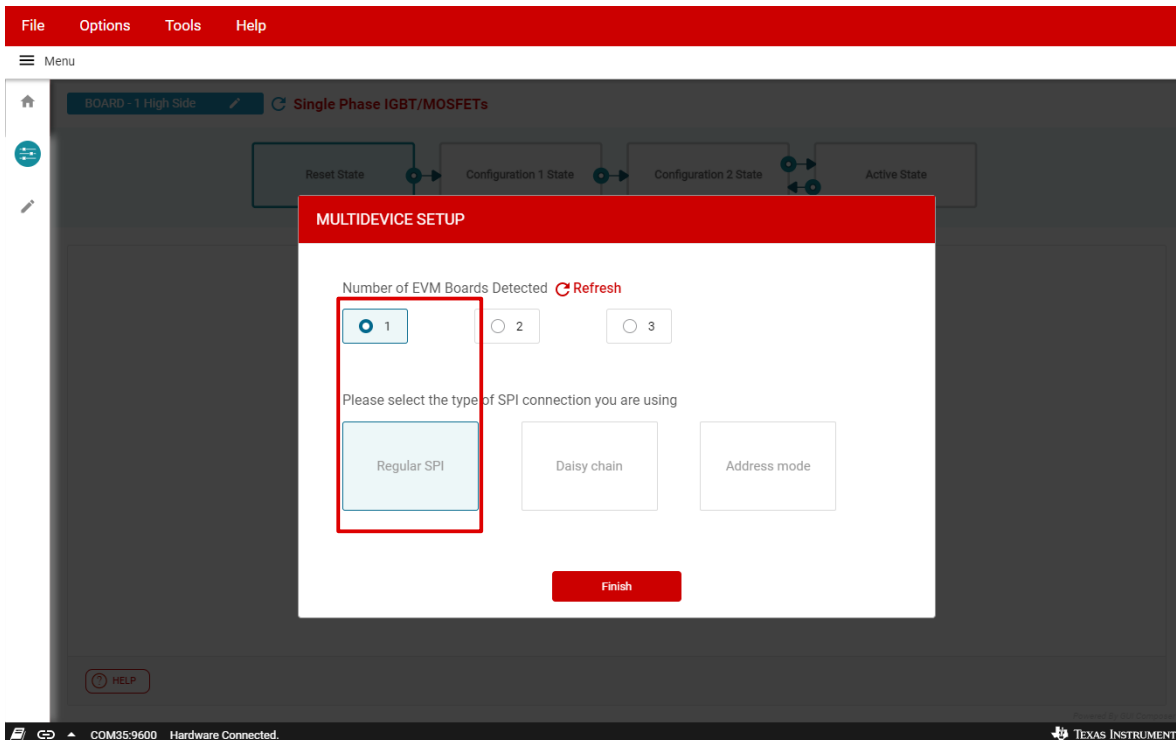

Figure 7. GUI EVM Number and SPI Mode Select
4. Click "Explore the Device Modes", page as Figure 7 should appear, EVM number will be detected automatically, select SPI type: Regular SPI (Address base SPI can be selected if MCU board is configured for this mode) then click finish.